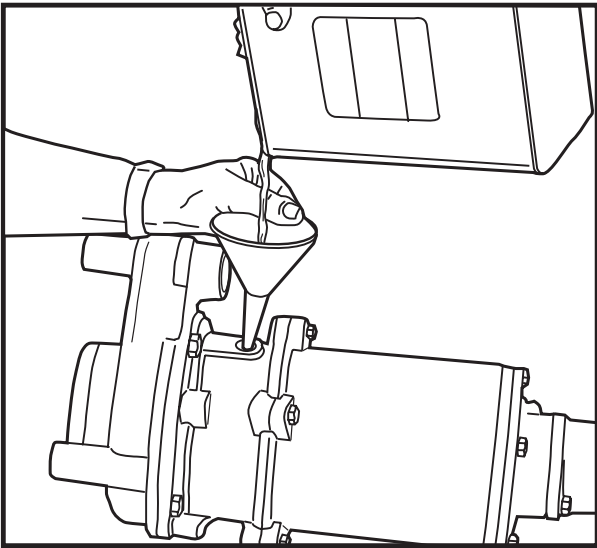
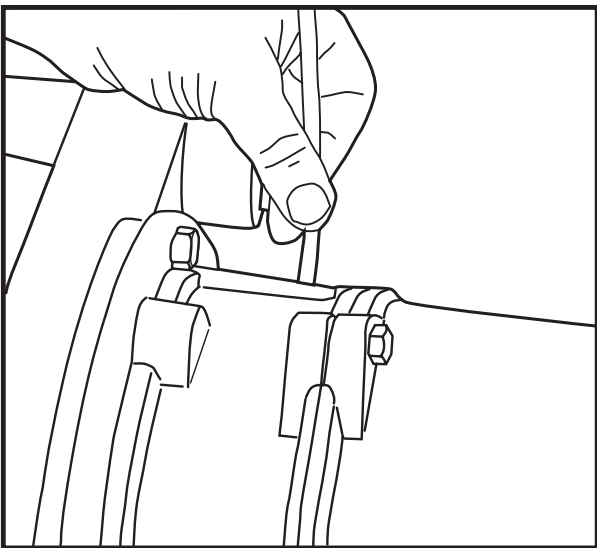

Fig. 27
Fig. 28
21. Refill seal chamber with Transformer Oil. See Figure 27. Fill until oil is  $\frac{3}{4}$ " below top of oil plug boss. See Figure 28.